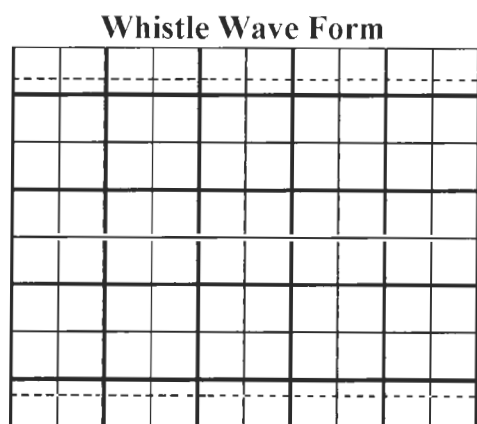

Figure L54-2
- d. Draw a representation of your whistle signature onto the scope face provided in Figure L54-2.